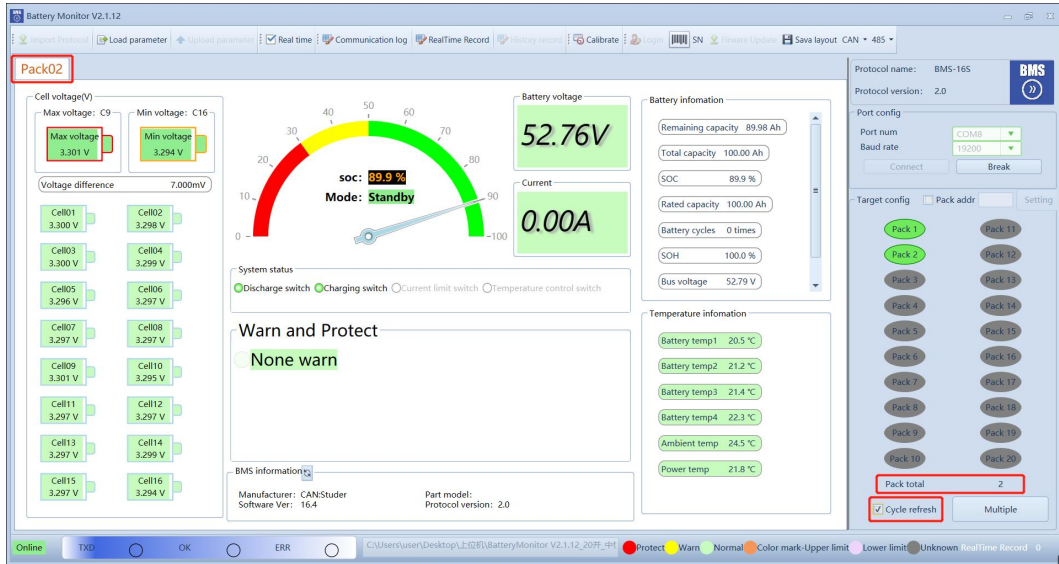

Figure 8-3
- 2) When confirming the number of connected machines, click Connect the upper monitor and select “Cycle Refresh”. The upper monitor can see the number of parallel machines and package the refresh data, Figure 8-3